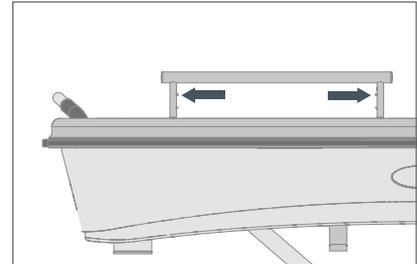

Figure 14. Siderail release button
1. Press the release buttons on the siderail legs and lift the siderail out of its sockets (see Figure 14 and 15).